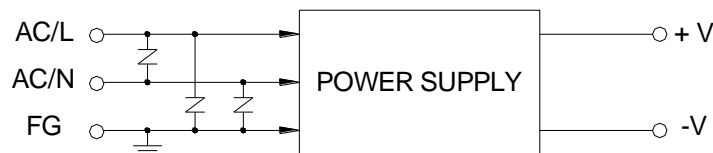

Figure 7.14: The connection of the Surge Absorber
- (1) Input Surge: The ON/OFF of heavy industrial machine will cause variance of nearby power line voltage. Sometimes the variance is so large that specification of the S.P.S. is exceeded and in turn may damage it, so there is a “surge absorber” between AC/L and AC/N in the S.P.S. to absorb this abrupt high voltage.
- (2) Shock Suppression: Lightning shock is a type of short-term high voltage and high energy pulse. To prevent damage from shock, we should add surge absorbers between AC/L - AC/N, AC/L - FG, and AC/N - FG, which are shown in figure 7.14.